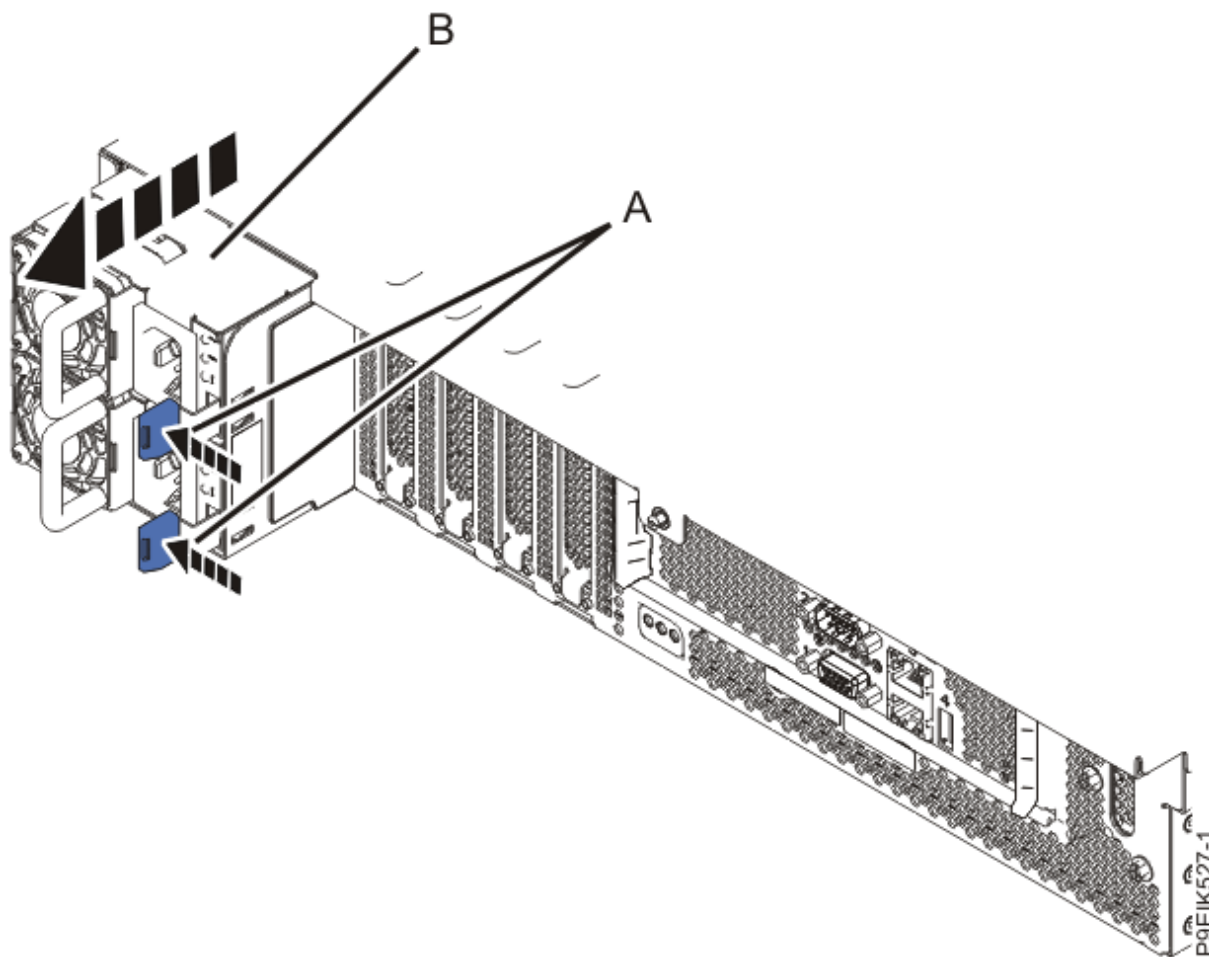

Figure 113. Removing the power supplies from the system
9. Remove the power supplies from the system as shown in Figure 113 on page 141.